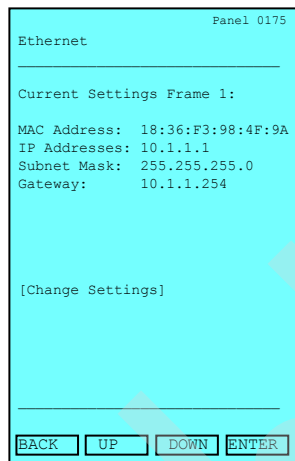

Figure 2-21 Change Ethernet parameters on IBM TS3500
1. Choose **Settings** → **Network** → **Ethernet**. You see the current interface MAC address (which cannot be changed), and the assigned TCP/IP address, subnet mask, and gateway. If the library has more than one frame, and you want to use several connections, then each frame requires a separate address. Use the **Up** and **Down** buttons to access the panels for the additional frames. The current configuration window is shown in Figure 2-21.